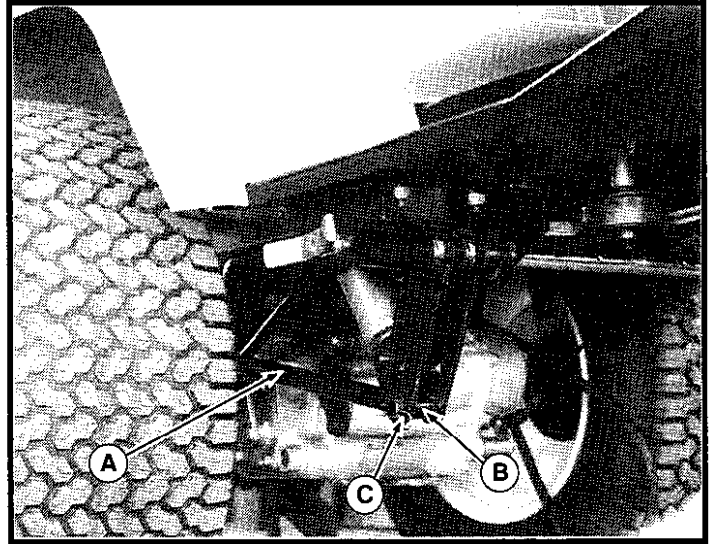

FIGURE 2. Electric Lift
2. Install the lower hitch assembly (E) to the tractor drawbar (F) using two 1/2-13 X 1 1/2" capscrews (G) and two 1/2-13 nyloc nuts. Secure the lower hitch brace to the rear frame using two 5/16-18 x 1" capscrews (H) and two 5/16 locknuts.
3. After the electric lift is installed, the lift rod (A, figure 2) will be installed to the upper hitch as shown in figure 1 and to the lift arm assembly using a clevis pin (B) and safety clip (C) as shown in figure 2.